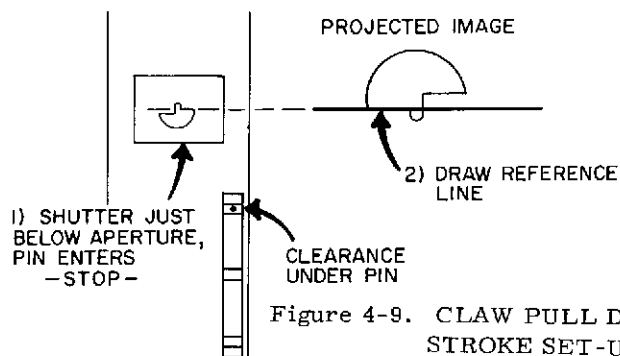

Figure 4-9. CLAW PULL DOWN STROKE SET-UP
- f. Turn on lamp and project image at least 8" wide (a wide angle lens will help achieve this width at a shorter projection distance), raise elevation approximately 1" (this will get you set up (in case stroke is in need of adjustment), and draw a reference line full width of Target on bottom step. (Figure 4-9).
- h. Manually raise Dowser and project image at least 8" wide (a wide angle lens will help achieve this width at a shorter projection distance), raise elevation approximately 1" (this will get you set up in case stroke is in need of adjustment), and draw a reference line full width of Target on bottom step. (Figure 4-9).